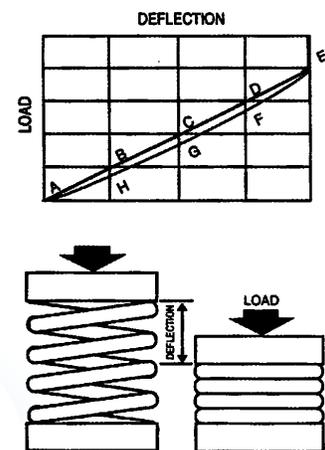

Figure 1
These values are normally shown in Load/Deflection (LD) curves with load, or applied force, measured on one axis and washer deflection on the other. A typical Load/Deflection curve for a simple coil spring is shown in Figure 1.